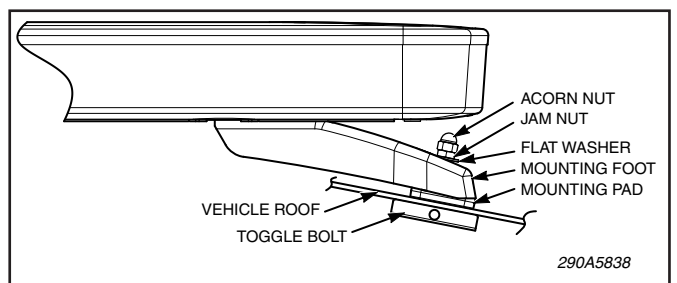

Figure 3.
H. See figure 3. Place the mounting feet down over the ends of the toggle bolts, install two 1/4" flat washers,